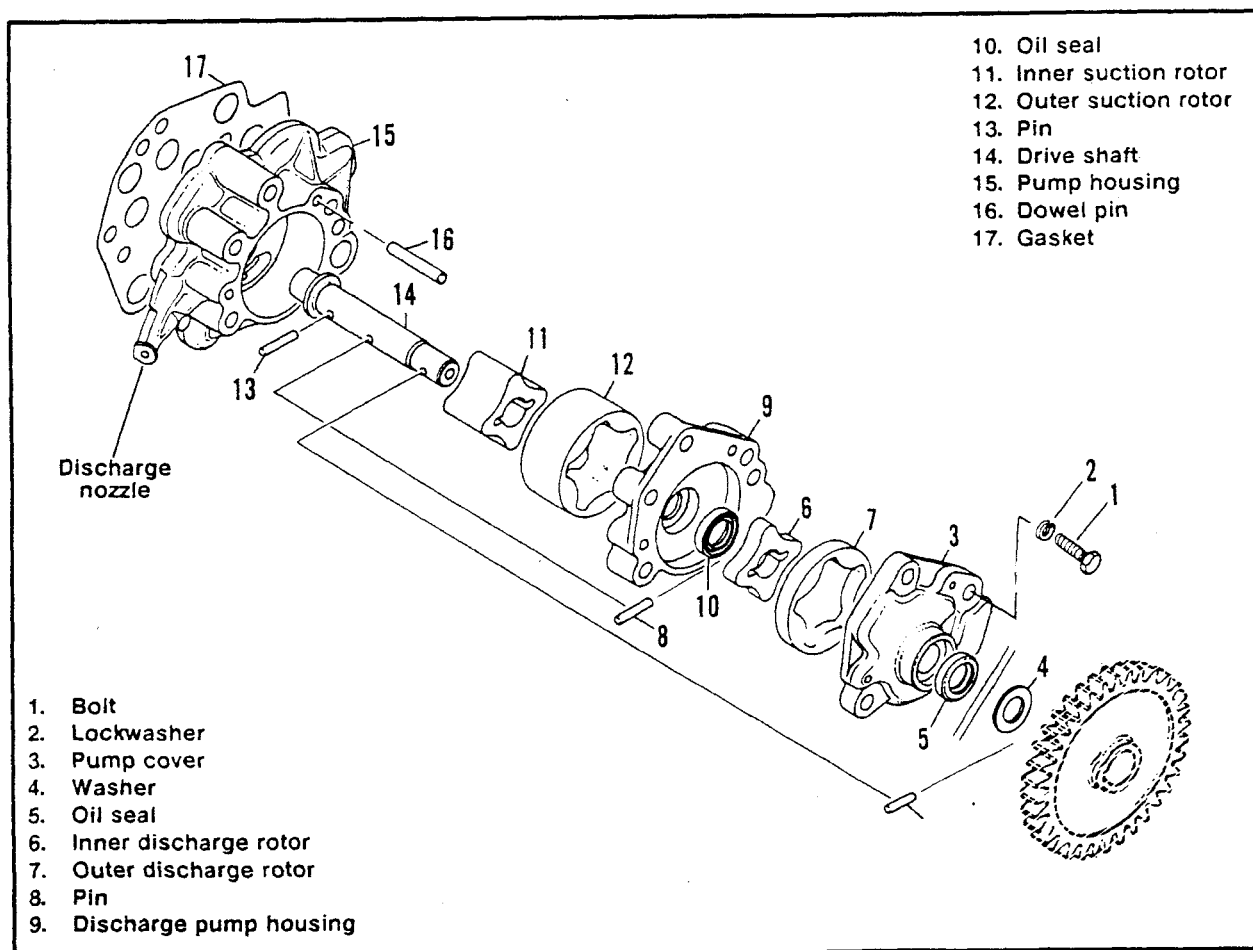

Figure 2-133. Oil Pump
4. See Figure 2-133. Remove bolts (1) and lockwashers (2).
5. Remove pump cover (3). Remove washer (4) and oil seal (5).
6. Remove inner discharge rotor (6) and outer discharge rotor (7). Remove pin (8).
7. Remove discharge pump housing (9). Remove oil seal (10).
8. Remove inner suction rotor (11) and outer suction rotor (12). Remove pin (13).
9. Remove drive shaft (14) from pump housing (15). Remove dowel pin (16).
10. Remove pump housing (15).
11. Remove and discard gasket (17).
1. See Figure 2-133. Install pin (13) in shaft (14) and place shaft in pump housing (15). Install pin (19).